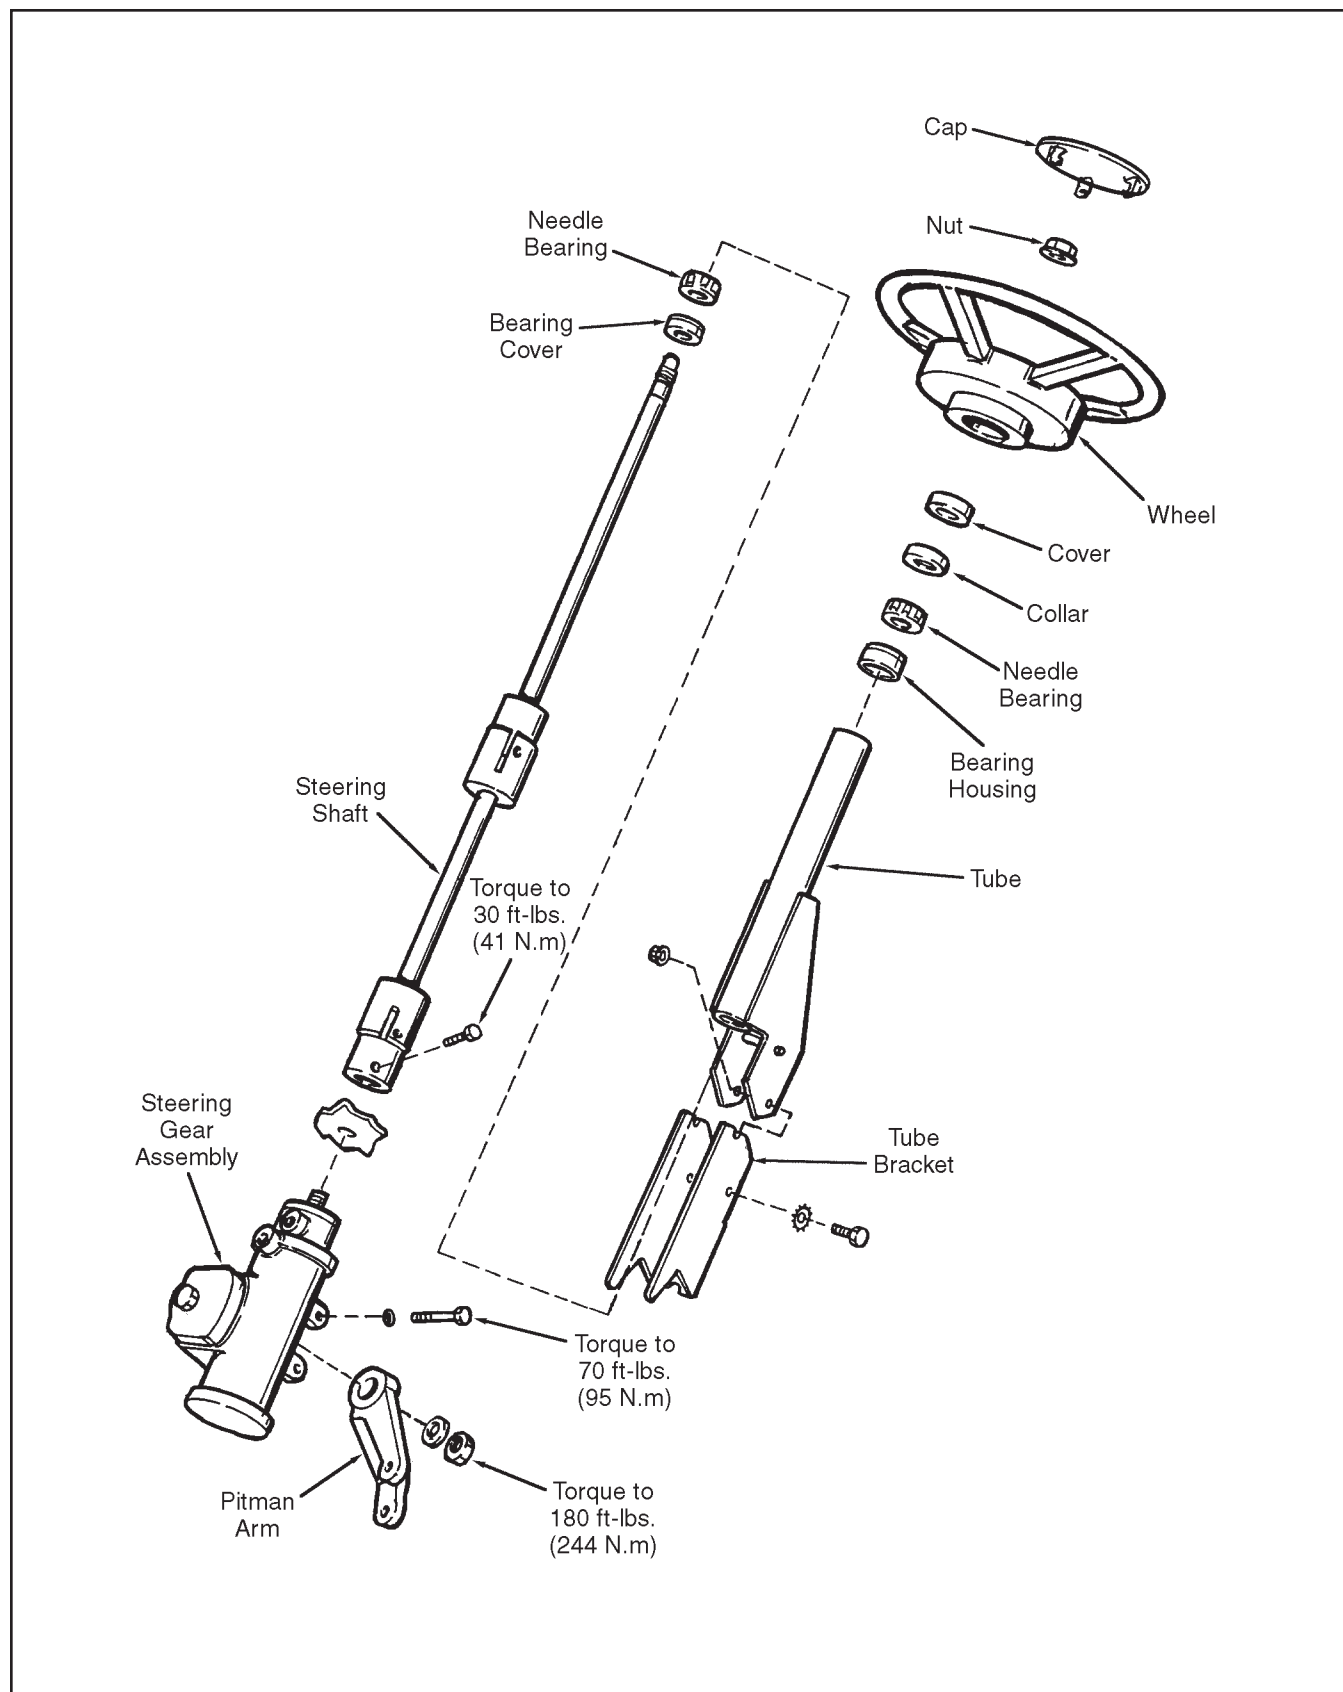

Figure 6C-4. Steering Column
4. If no further repairs are required, reconnect the tie rods to the pitman arm and secure with nuts and cotter pins as shown in Figure 6C-3.
REMOVING AND INSTALLING STEERING GEAR ASSEMBLY (See Figure 6C-4)